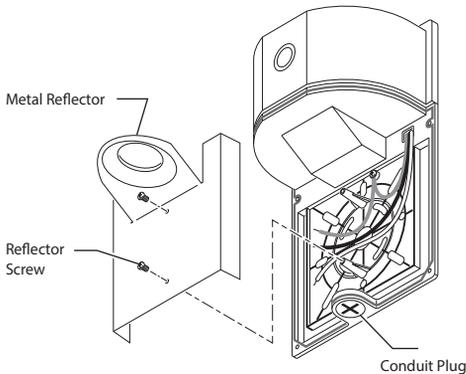

Figure 2
- Using a phillips screwdriver, remove the two screws holding the metal reflector on the light fixture and remove the reflector (Figure 2).